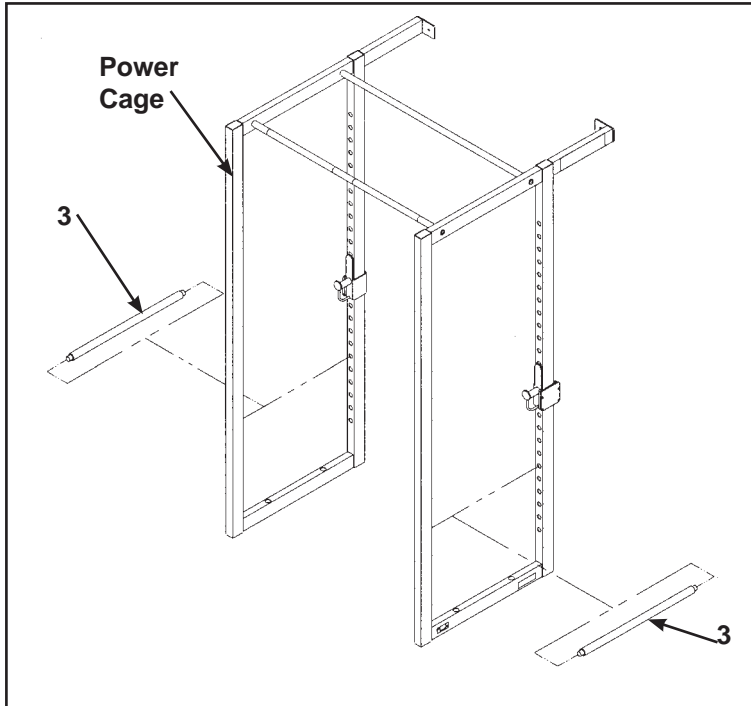

Figure 7
**6. Attach adjusting bars (see steps 6A and 6C and Figure 7).**
- B. Position adjusting bar (#3) in Power Cage and align holes. See Figure 7.